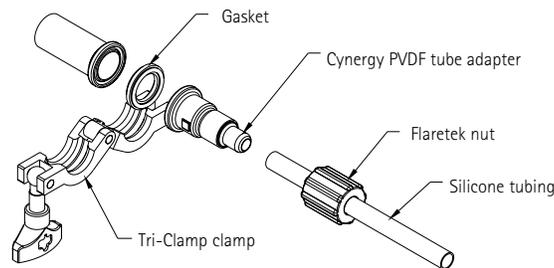

Figure 17
1. Push the silicone tubing end onto the nose of the Cynergy PVDF tube adapter until the end of the tube contacts the shoulder of the adapter body (see Figure 17).